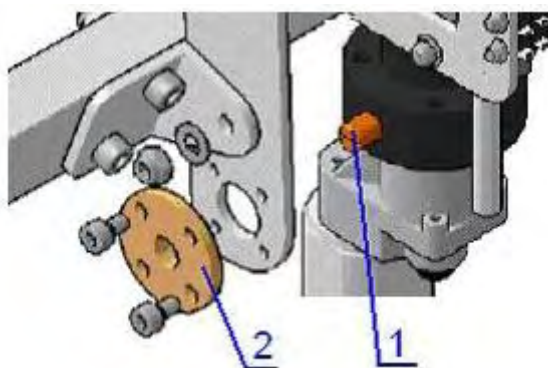

Fig. 10
- 10) Inspect attachment pins of the actuator (1) for play. If play exceeds  $\frac{15}{256}$  " (0.15 mm ), replace the bushings (2) KB6030305 on the T-bracket KB6030300 (Fig. 10).